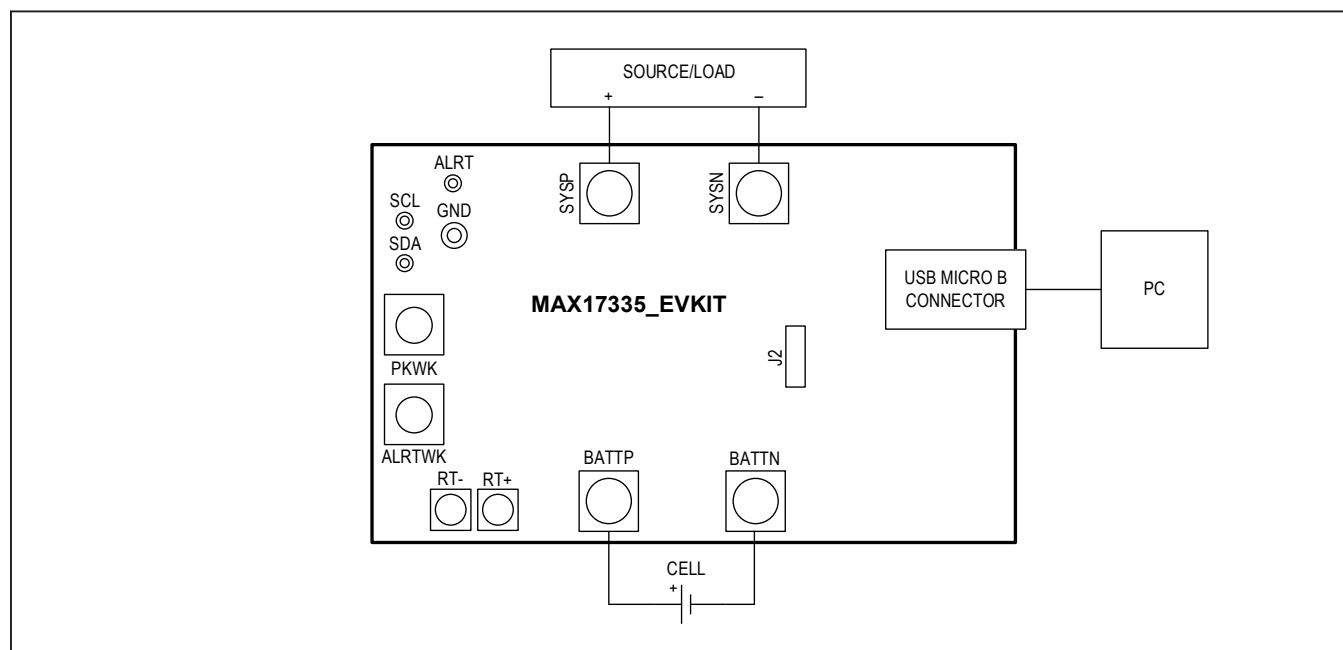

Figure 1. MAX17335 Board Connections
- 5) Make connections to the EV kit board based on Figure 1. The cell connects between the BATTP/BATTN pads. The load or charger circuit can be connected between the SYSP and SYSN pads at this time as well.